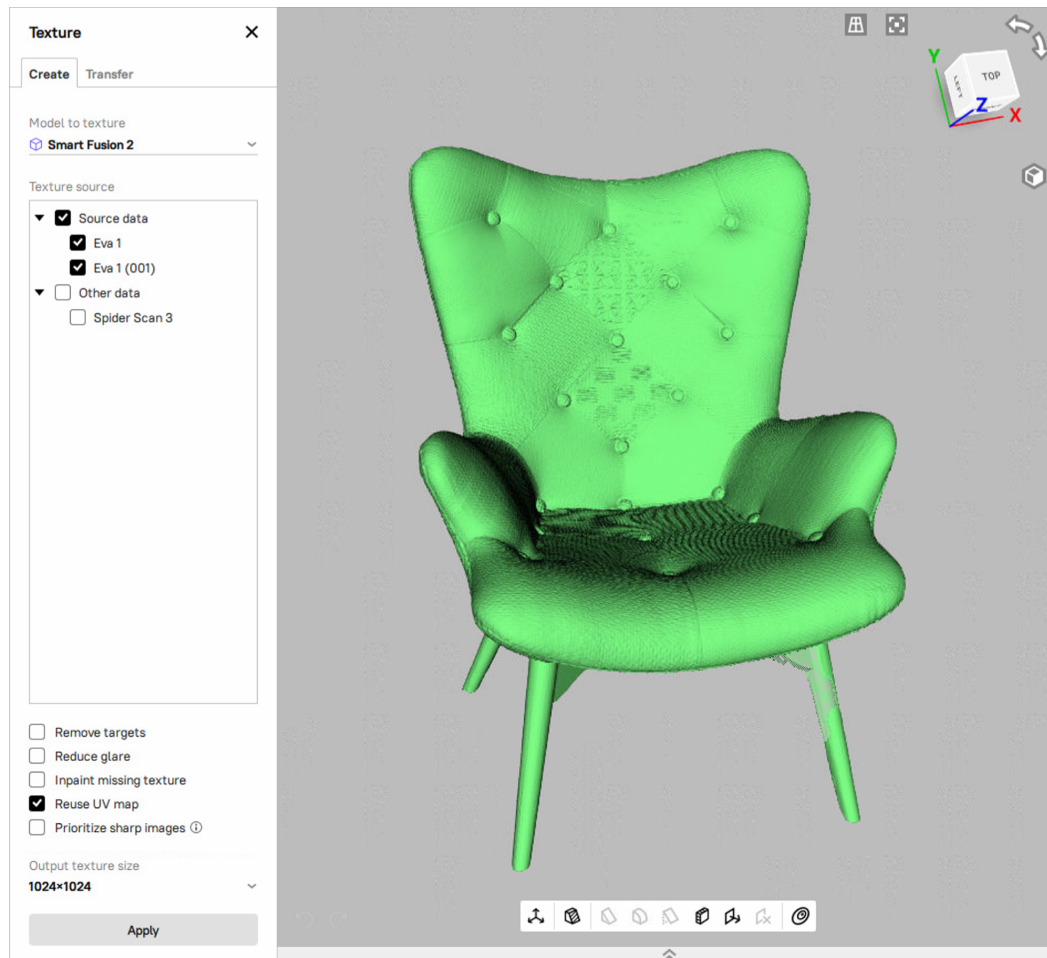

Figure 175: Adjusting texturing parameters.
2. Select a model from the *Model to texture* list (see Figure 175). Artec Studio will apply the textures to this model. The model selected in Workspace will automatically be active in this list.